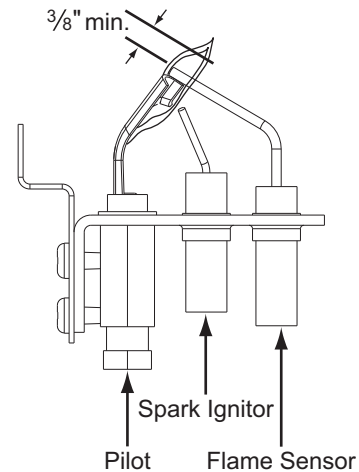

Figure 17: Proper Flame Adjustment
2. **Pressure Switch (PS)** - If the draft motor should fail, the pressure switch prevents the ignition controls and gas valves from being energized.
3. **Flame Sensor** - The flame sensor and controls are located per Proper Flame Adjustment Figure 17. If an ignition control fails to detect a signal from the flame sensor indicating the pilot flame is properly ignited, then the main gas valve will not open.
4. **Rollout Switch (RS)** - This switch is located in the burner vestibule. In the event of a sustained main burner flame rollout, it shuts off the ignition control and closes the main gas valve.
3. The pilot flame should envelope 3/8" of the end of the flame sensor and not contain any yellow color, see Figure 17.